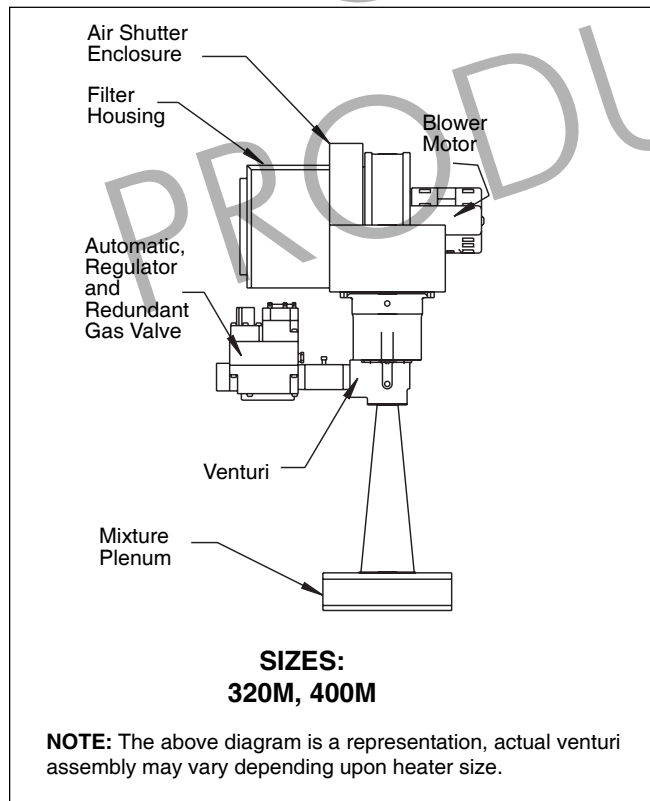

Figure 3. Heater Gas Valve Arrangement.
- with CSA B149.1 and all local codes that apply (see Figure 3 for heater gas valve arrangement).